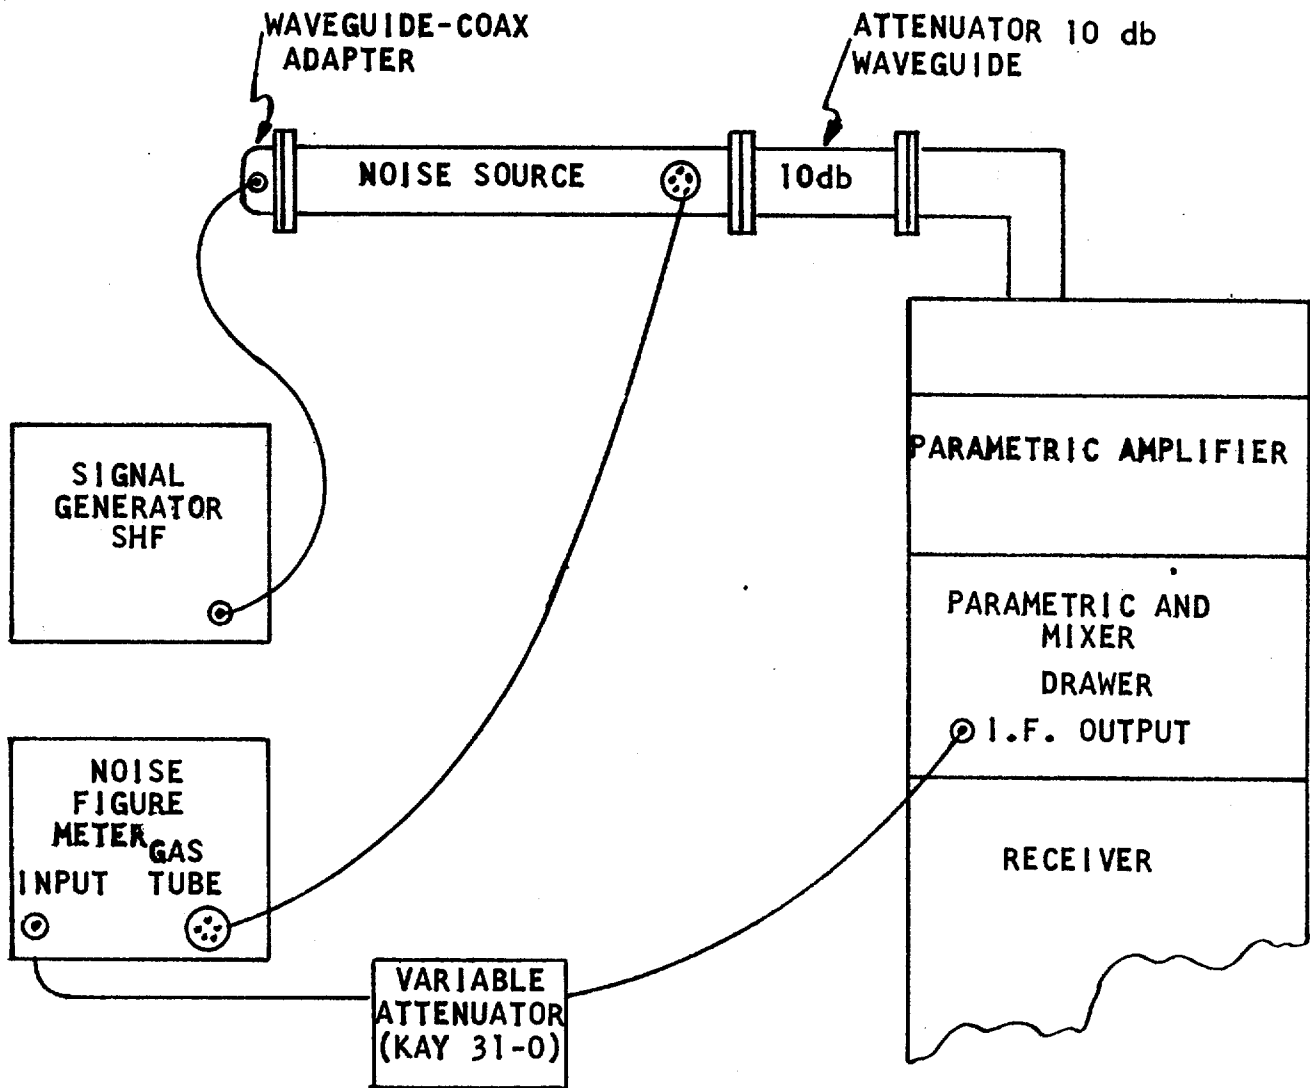

Figure 6-1. Parametric Amplifier Gain and Noise Figure Measurements Test Setup
- c. Set up the remainder of the test equipment as shown in figure 6-1.
- f. On the noise figure meter, adjust the front panel controls as follows: INPUT (MC) 70, NOISE SOURCE to OFF, METER FUNCTION to NOISE FIGURE.